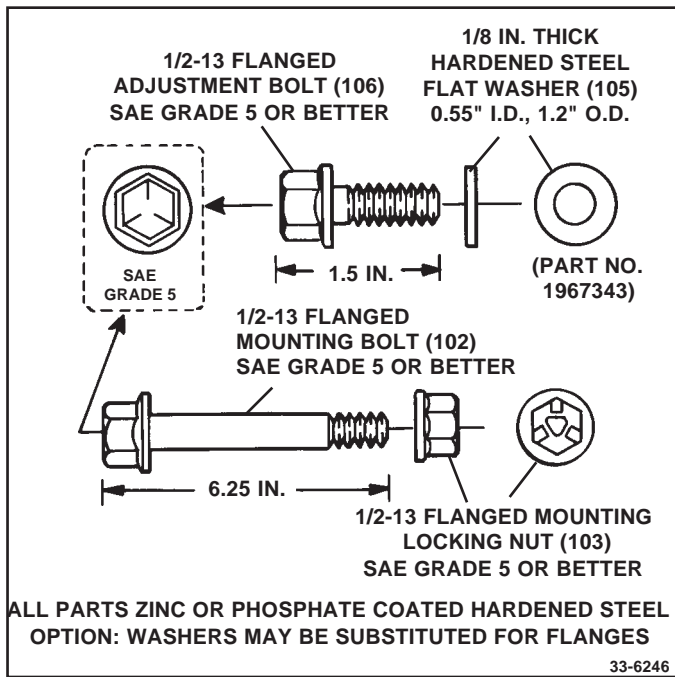

Figure 43. Alternator Mounting Bolts
**NOTICE:** Always reinstall fasteners at original location. If necessary to replace fasteners, use only correct part number or equivalent. (See Fig. 43)
1. 33 SI or 34 SI mounting lugs (H) to alternator mounting bracket (101).
2. One flanged mounting bolt (102) through the D.E. frame mounting lug (H), the alternator mounting bracket (101), and the R.E. frame mounting lug bushing (17).
3. Flanged mounting nut (103) to flanged mounting bolt (102) finger tight.
**NOTICE:** If either bolt or nut are not flanged a 1/8" thick, hardened steel flat washer (105) (See Figure 43) must be substituted for flanged applications.